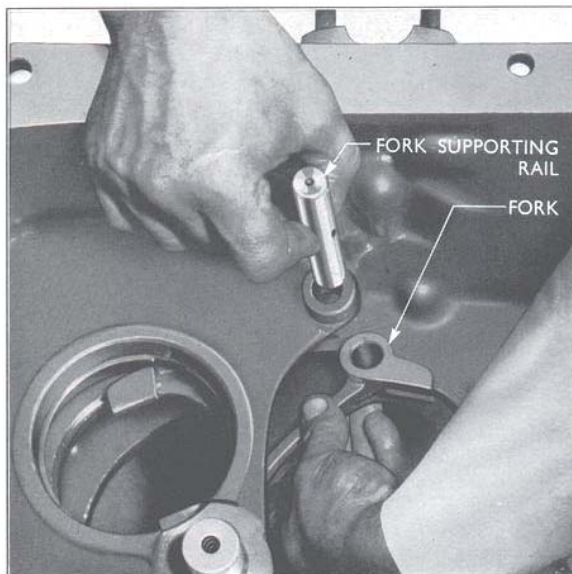

Fig. 29
3. Assemble the fourth/sixth gear selector fork supporting rail, picking up the selector fork as the rail is moved into position (see Fig. 29). The slot in the selector fork boss should incline towards the centre of the gearbox so that it can be linked with the reverse selector fork.